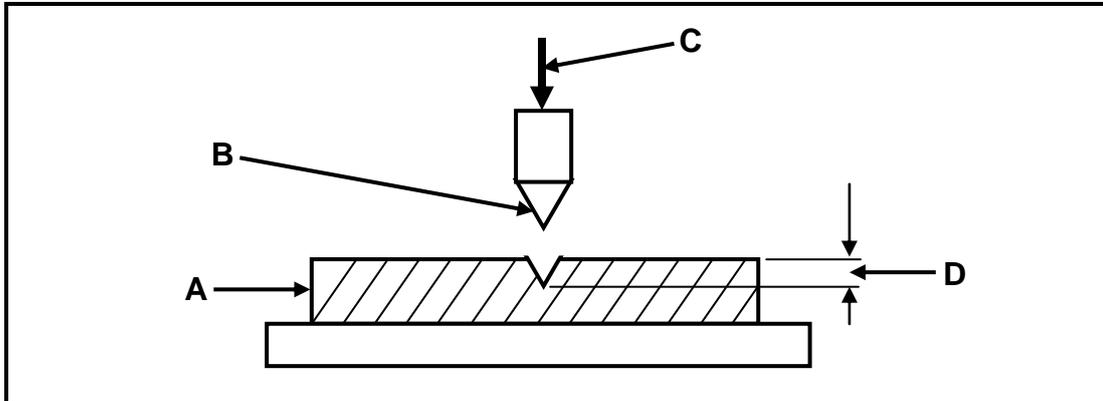

FIGURE 7.1: ROCKWELL HARDNESS TESTER
7.1 FIGURE 7.1 below shows the Rockwell hardness tester used to determine the hardness of a metal. Label **A–D** in FIGURE 7.1.